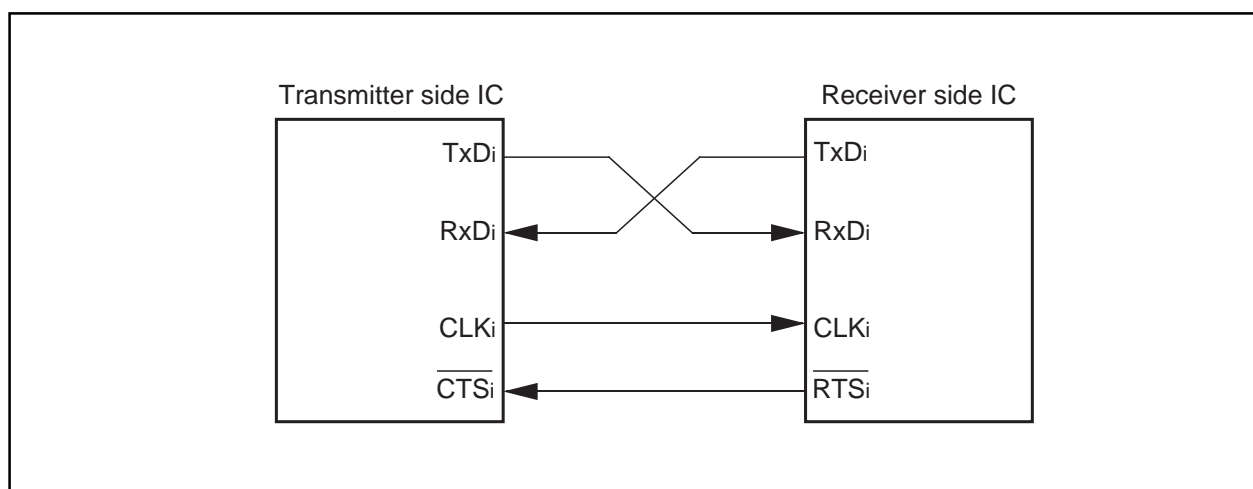

Figure 2.4.14. Example of wiring
- (1) With an external clock selected, and choosing the $\overline{\text{RTS}}$ function, the output level of the $\overline{\text{RTSi}}$ pin goes to "L" when the data-receivable status becomes ready, which informs the transmission side that the reception has become ready. The output level of the $\overline{\text{RTSi}}$ pin goes to "H" when reception starts. So if the $\overline{\text{RTSi}}$ pin is connected to the $\overline{\text{CTSi}}$ pin on the transmission side, the circuit can transmission and reception data with consistent timing. With the internal clock, the $\overline{\text{RTS}}$ function has no effect. Figure 2.4.14 shows an example of wiring.